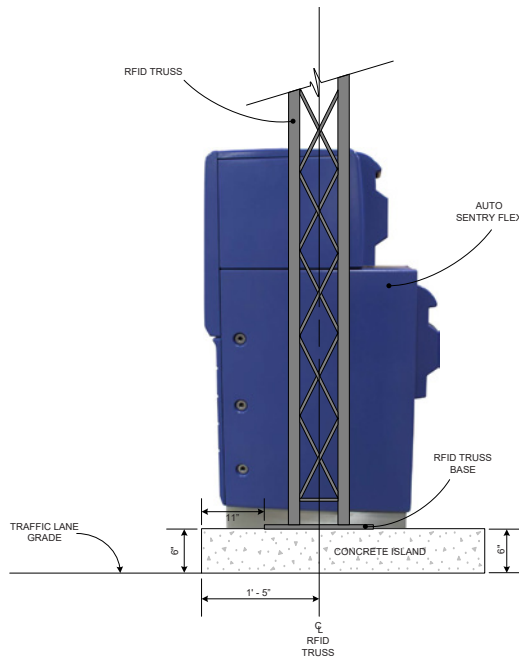

Figure 8. Truss Base Location Rear View
- Mount truss base 1'5" from the edge of the curb to the center of the truss base. See Figure 8.